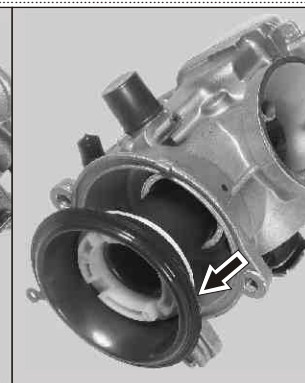

Fig. 4.20B
- Remove piston valve assembly along with the diaphragm. (Fig. 4.20B)